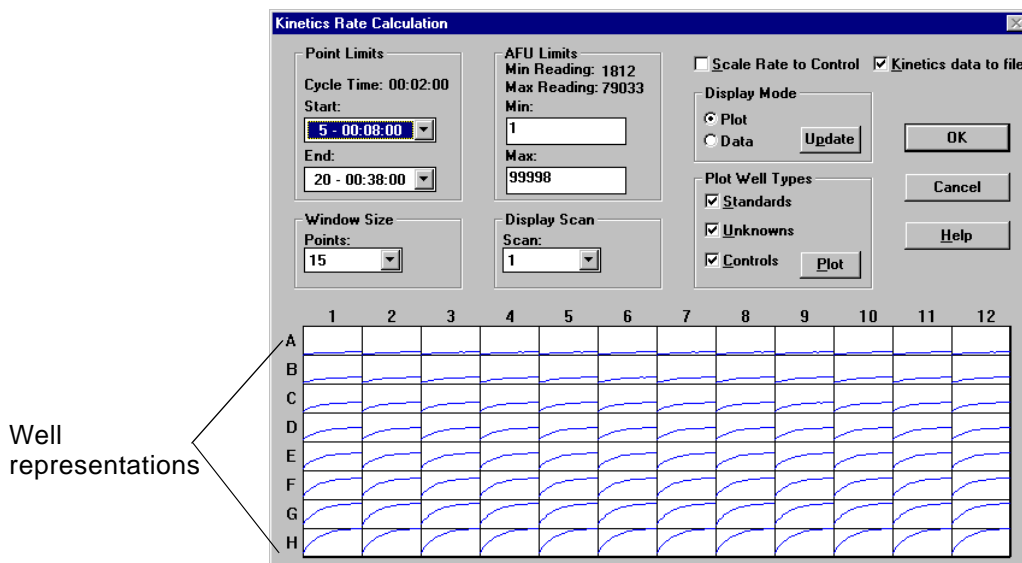

Figure 4-10 Kinetics Rate Calculation Screen
1. Double-click the well on the Kinetics Rate Calculation screen (Figure 4-10 on page 4-11). The Expanded KineticsPlot screen appears with a graph of the data for the selected well.
1. On the Kinetics Rate Calculation screen (Figure 4-10 on page 4-11), select **Standards** and click the **Plot** button. The Expanded Kinetics Plot screen appears with a graph of the standards.
1. On the Kinetics Rate Calculation screen (Figure 4-10 on page 4-11), select **Unknowns** and click the **Plot** button. The Expanded Plot screen appears with a graph of the unknown.
1. On the Kinetics Rate Calculation screen (Figure 4-10 on page 4-11), select **Controls** and click the **Plot** button. The Expanded Plot screen appears with a graph of the controls.